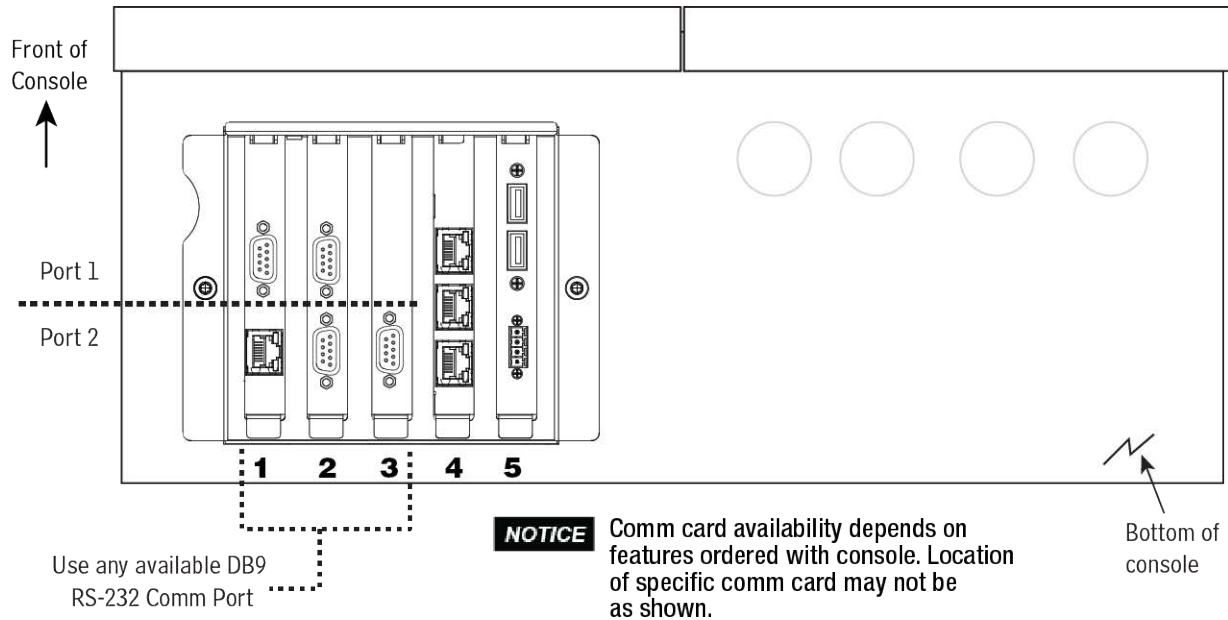

Figure 38. Connect Laptop to an Available RS-232 Comm Port
2. Select an available RS-232 Comm port on the TLS-450PLUS Comm cage (see Figure 38).